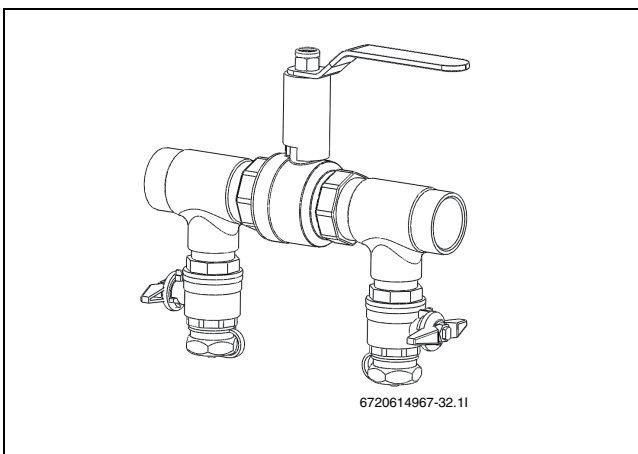

Fig. 21 Filling unit in normal position
- ▶ Turn the valves of the filling unit to normal position (→ Figure 21) and turn off the pump on the filling station.